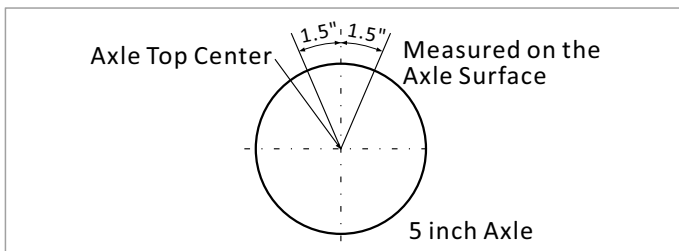

FIGURE 12
- » Welding is not allowed on 5-inch (127 mm) diameter axles within 1.50-inches (38.1 mm) of the top-center of the axle. (Figure 12)